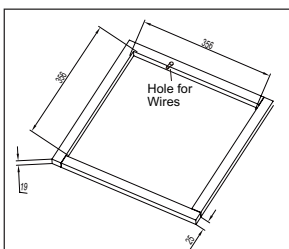

Figure 1
3. Examine the roof opening size, if the opening is small than 356x356mm, the opening must be enlarged. If the opening exceeds 356x356mm, a mounting plate (frame) must be fabricated to reduce the opening size (See Figure 1).
If a roof vent opening is not used, a new opening (see figure 1) will be cut into the vehicle roof. A matching opening will also have to be cut into the interior vehicle ceiling, be careful when cutting the ceiling opening because if the ceiling opening is carpeted, snagging could occur. After the opening in the roof and interior ceiling are the correct size, a framed support structure must be placed between the exterior roof top and interior ceiling. The reinforced framed structure must follow the following guidelines:
2. It must be capable of holding the roof outer surface and interior ceiling apart and supporting them, so that when the roof top air conditioner and ceiling assembly are bolted together, no collapsing occurs. A typical support frame is shown in Figure 1.